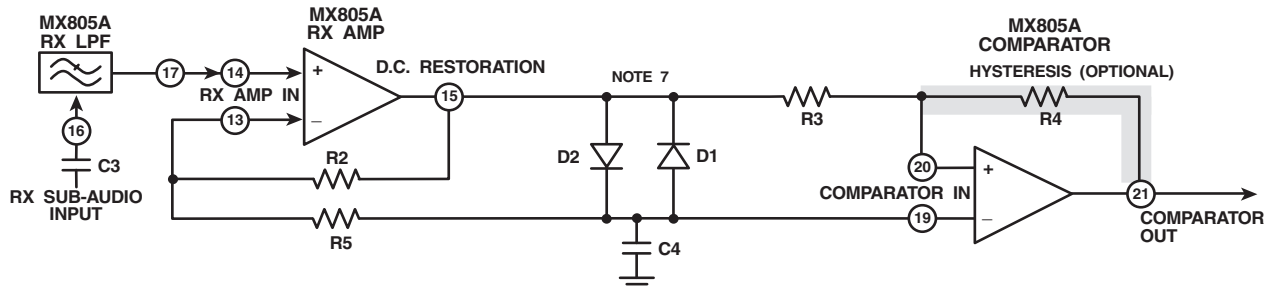
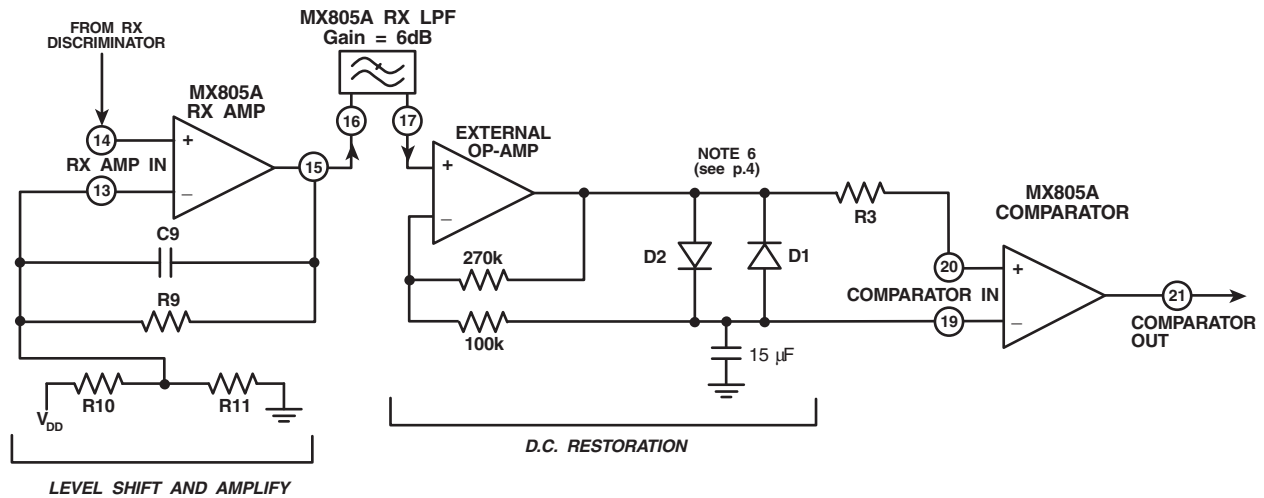

Figure 3: MX805A Input Components
Figure 4: MX805A Input Components using and External Op-Amp
3. Figure 3 and Figure 4 illustrate alternative input component configurations.
Figure 3 shows an input configuration that is generally for use for CTCSS signal and NRZ data reception.
The output resistance (open loop) of the on-chip Rx Amp is $= 6\text{k}\Omega$. In the configuration shown in Figure 3, the (Rx Amp) RC time constant is therefore 90ms. If this period is too long for some systems, i.e. those using half duplex, short data burst, and external amplifier should be considered in place of the on-chip Rx Amp.
For DC coupling the MX805A to the receiver's discriminator output when using burst mode NRZ communication, it is recommended that an additional, external Op-Amp is employed as configured in Figure 4. This configuration will quickly compensate for sudden shift of DC input bias.